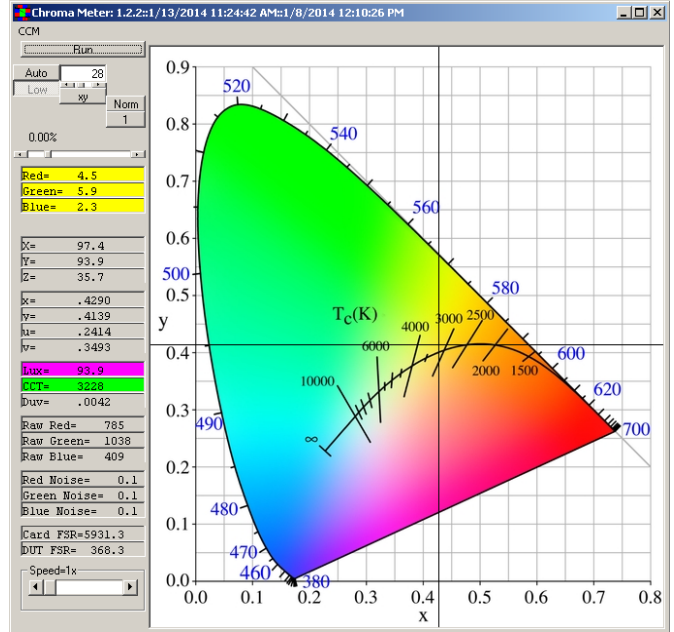

FIGURE 9. CHROMA TEST GUI
- C) Once "ChromaMeter" is clicked, the window displayed in Figure 9 should open. If it does not display cross-points in the Chromaticity diagram on the right and numbers on the left panel of GUI, then check your connections. If the problem still persists, then you may want to restart the software. Figure 12 shows the error message that displays if the evaluation board is improperly attached.
- D) Figure 9 shows an example using the ISL29125. Please note that all demonstrations within this document use the ISL29125.
16. Speed: Allows the user to select the number of ADC bits and the speed of the conversion. Details shown in Figure 9.